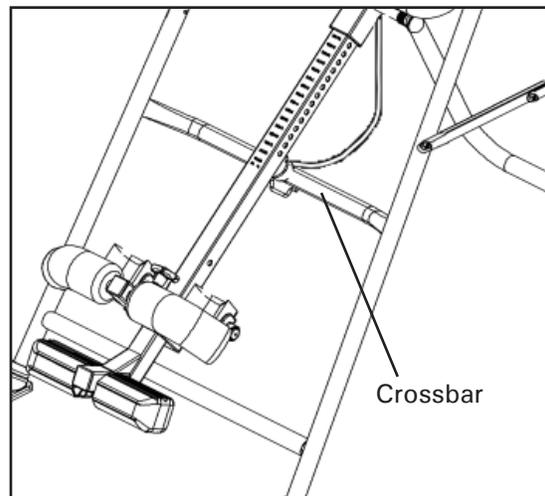

Figure 9
- The Main Shaft must rest against the crossbar of the A-frame (Figure 9). The crossbar prevents the table from rotating forward when the user steps on the Foot Platform. If the Main Shaft does not rest on the crossbar as shown in Figure 9 then the Bed Mat has been assembled backwards onto the A-frame and this must be corrected before use.